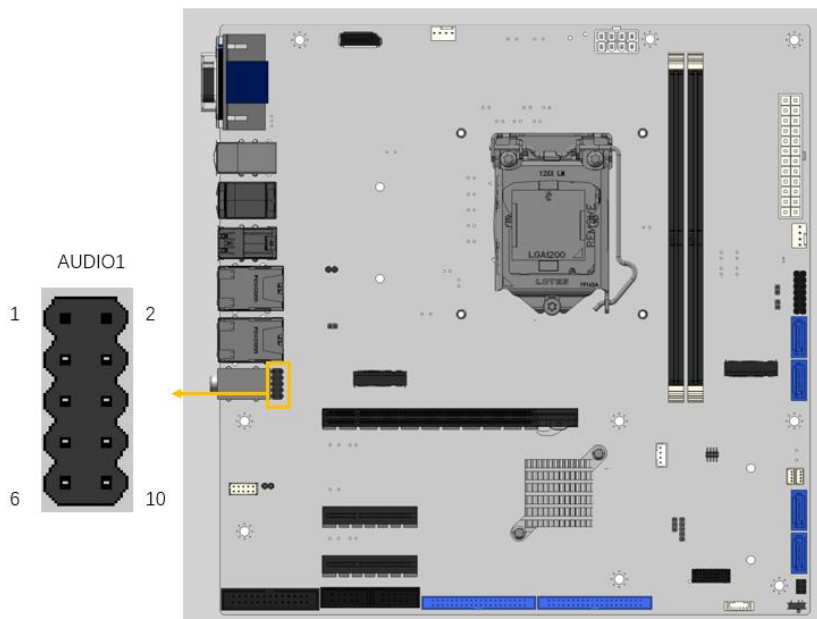

Figure 3-15: Audio Connector Location
- CN Location:** See Figure 3-15